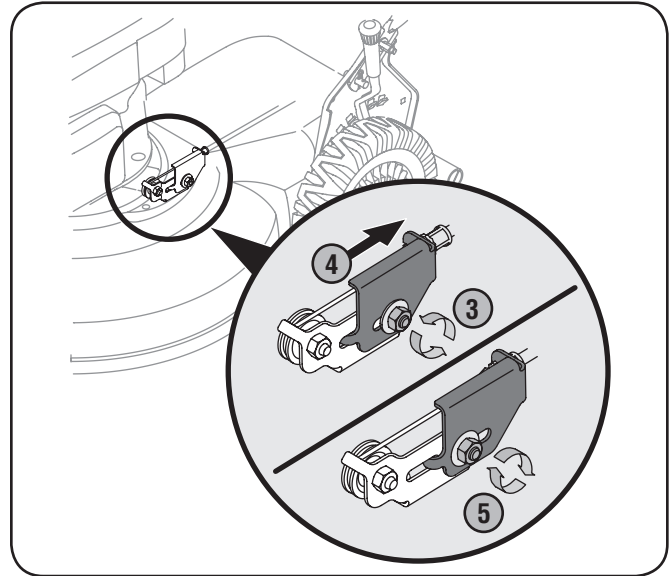

Figure 6-3
Periodic adjustment of the six speed shift cable may be necessary due to normal wear on the cable. Adjustment is needed if all six speeds do not work. The adjustable cable bracket is located on the left side of the mower beside the engine. See Figure 6-3.
3. Loosen hex nut which secures the adjustable cable bracket. See Figure 6-3.